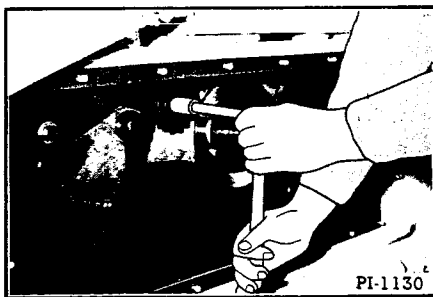

Fig. 17 Removing Sprocket From Idler
7. Remove the sprocket from the intermediate idler (Figure 17). This is necessary to gain enough slack in the intermediate (inside clutch) chain so that the chain can be released from the inside clutch sprockets.
7. Loosen the intermediate chain idler. Remove the sprocket from the intermediate idler (Figure 17). This is necessary to gain enough slack in the intermediate (Inside clutch) chain so that the chain can be released from the inside clutch sprockets.